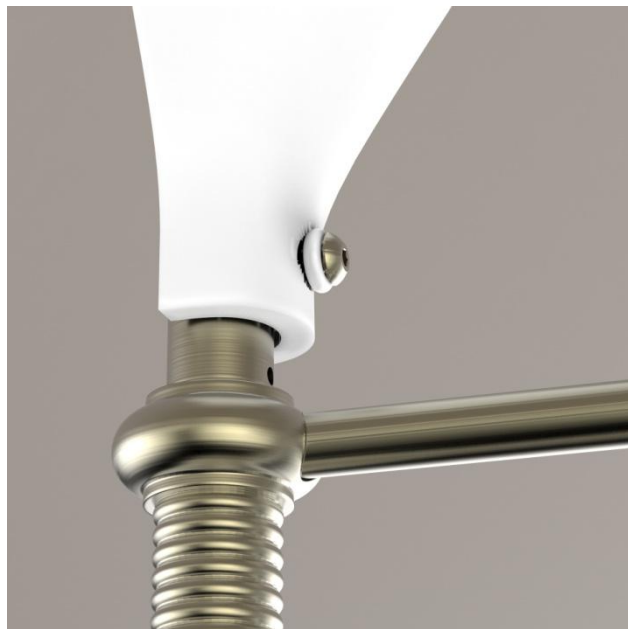

Figure 7
- Secure porcelain shade onto rod (Figures 7/8).